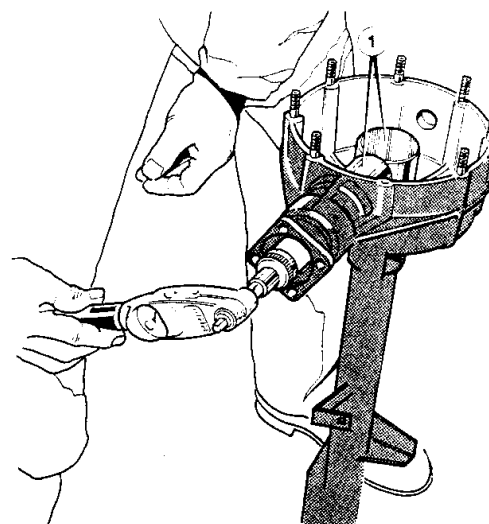
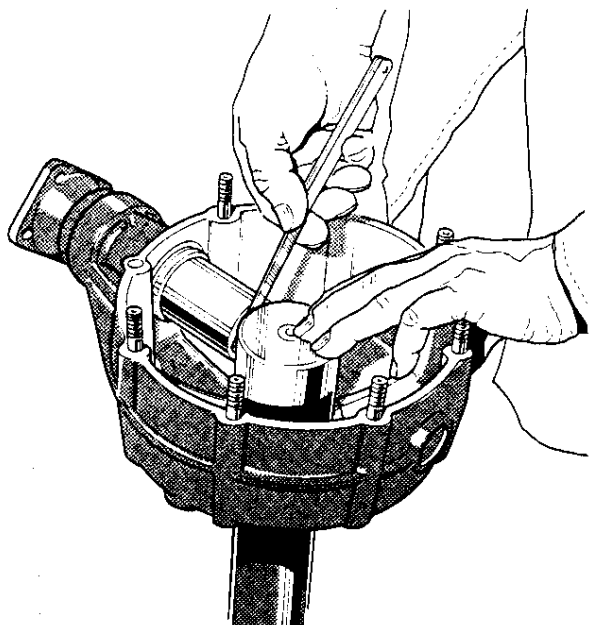

Figure 11 Measuring the torque to turn the pinion using dummy Pinion tool
Figure 12 Determining pinion mounting distance using dummy pinion
4. Place the mandrell, RT 8730 in the differential side bearing bore. With a dial gauge torque wrench, check the torque required to turn the dummy pinion nut (Figure 11). This should read 0.115 to 0.150 kg/m (10 to 13 lb/in) torque without the oil seal, 0.150 to 0.184 kg/m (13 to 16 lb/ft) with the oil seal. Ensure that the mandrell is seating correctly and measure with feeler gauges the gap between the outside diameter of the mandrell and the dummy pinion face (Figure 12). Any amount in excess of 0.030 in will be the spacers required to bring the pinion to its correct operating distance. take in to account, when determining the shims required, any figure stamped on the pinion itself, which represents any variation in manufacture from the nominal mounting distance i.e. if a figure of 0.003 is stamped on the